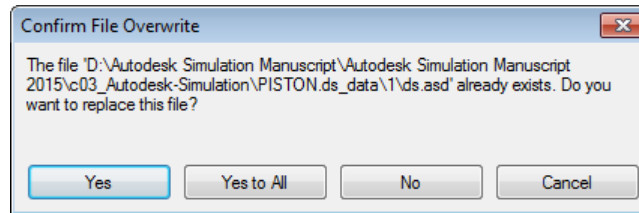

Figure 3-18 The **Confirm File Overwrite** message window
*If the folder selected for extracting the data of an archive file already has all the data of the same archive file then on choosing the **OK** button from the **Browse for Folder** dialog box, the **Confirm File Overwrite** message window will be displayed, refer to Figure 3-18. This message window informs you that the file already exists in this folder and do you want to replace it with the existing file.*